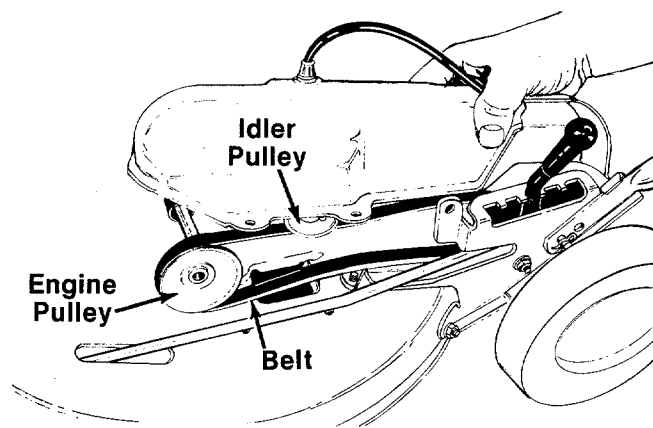

FIGURE 34.
4. Remove the belt from the pulley and engine pulley. See figure 34.